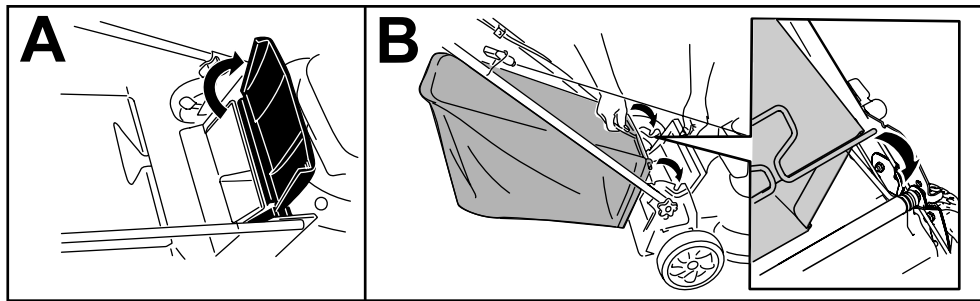

Figure 13
1. Raise and hold up the rear deflector (A of Figure 13).
2. Install the grass bag, ensuring that the pins on the bag rest in the notches on the handle (B of Figure 13).